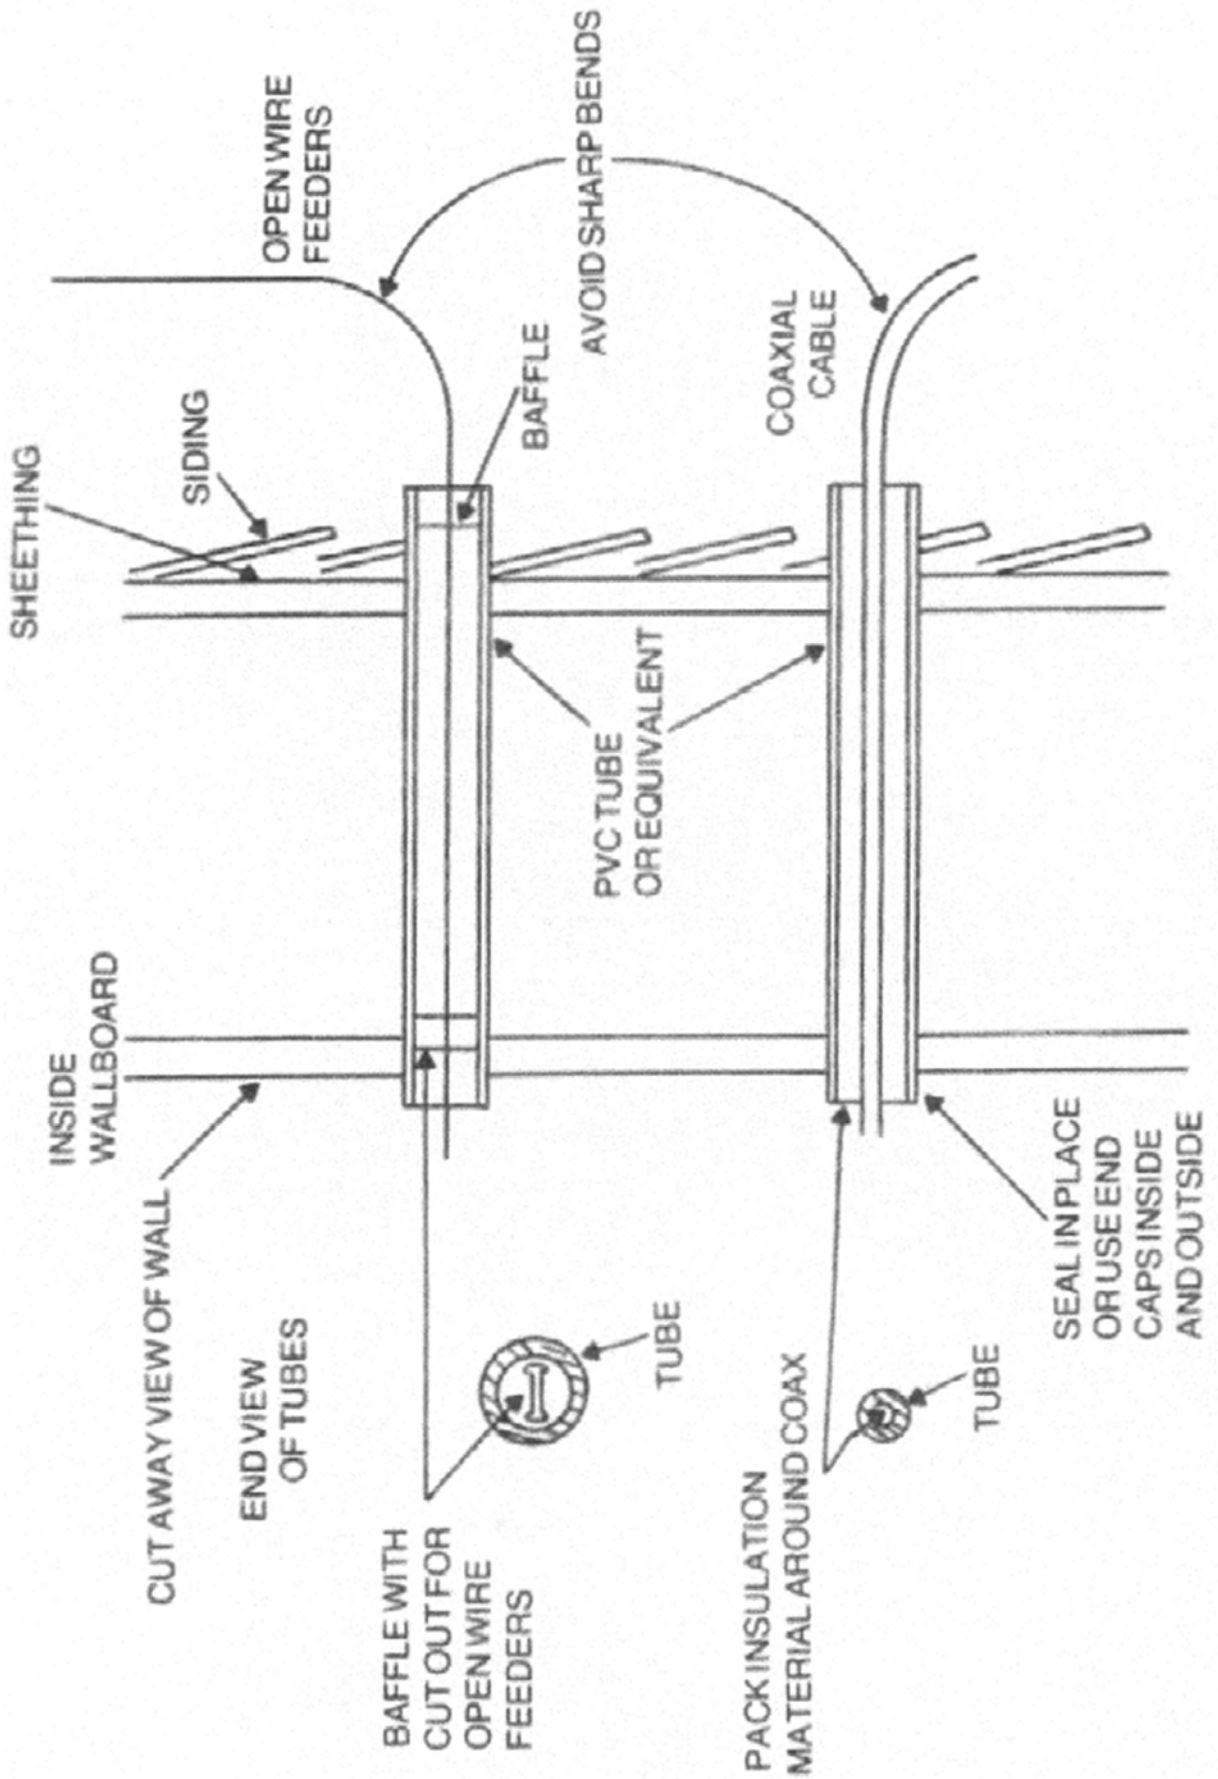

Fig. 10: Running cables through walls
- *The wall:* Figure 10 shows the cables running through the wall. Be sure *before* you drill that no electrical circuits run in the area you are drilling. Although coaxial cables can be run through the hole without support, a length of plastic tubing or pipe will keep them in place. The points of emergence should be well caulked to minimize air leakage and the possibility of rain getting in. This technique does mark the house, but perhaps not irreparably. If the exterior of the house is brick or rock, this method of gaining access to the outside may involve more work than you care to do.